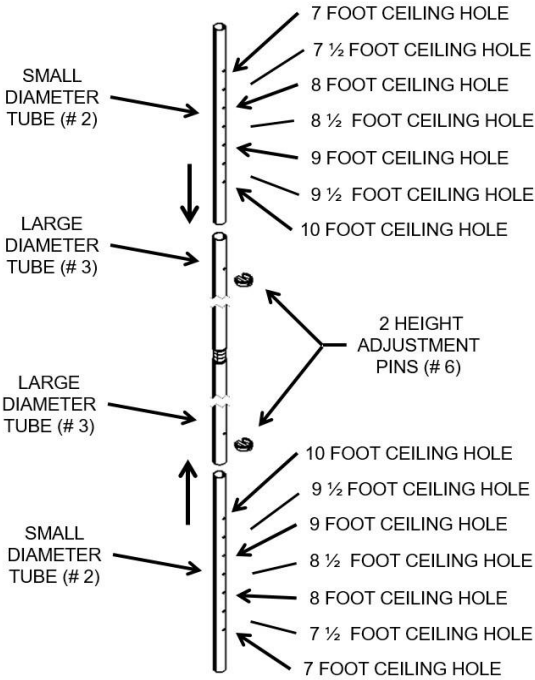

FIGURE 4
Insert the SMALL DIAMETER TUBES (# 2) Into the LARGE DIAMETER TUBES (# 3) as shown in Figure 4. Align the appropriate ceiling height hole in the SMALL DIAMETER TUBE with the hole in the LARGE DIAMETER TUBE (# 3) and insert the HEIGHT ADJUSTMENT PINS (# 6) through the aligned holes.
- b) Figure 4 identifies 7, 8, 9, and 10-foot ceiling height holes with arrows. The holes located in-between the arrows should be used for ceiling heights that are close to 7-1/2, 8-1/2, and 9-1/2 ceiling heights. Pole can be adjusted +/- 3 inches with the Threaded Adjustment Assembly (#4)